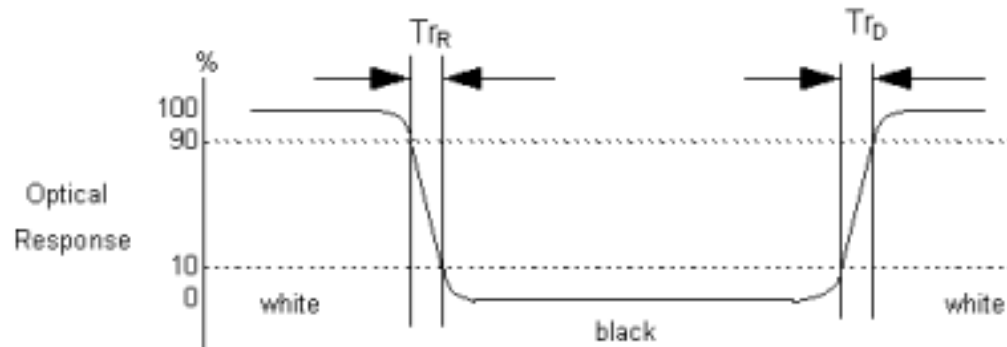

**FIG. 2 Luminance**
1. Surface luminance is luminance value at point 1 across the LCD surface 50cm from the surface with all pixels displaying white. For more information see FIG 2. When  $I_{BL} = 6.5\text{mA}$ ,  $L_{WH} = 600\text{cd}/\text{m}^2$  (typ.)